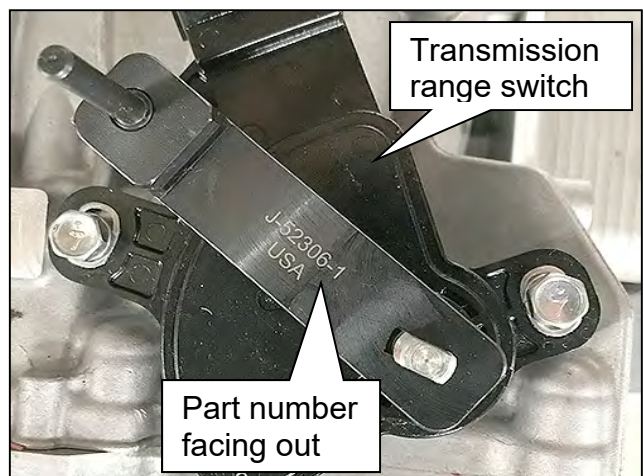

Figure 214
- b. Attach the combined alignment tool onto the manual shaft as shown in Figure 214 with part number facing out.
- c. Install the two original bolts for the transmission range switch (Figure 214).